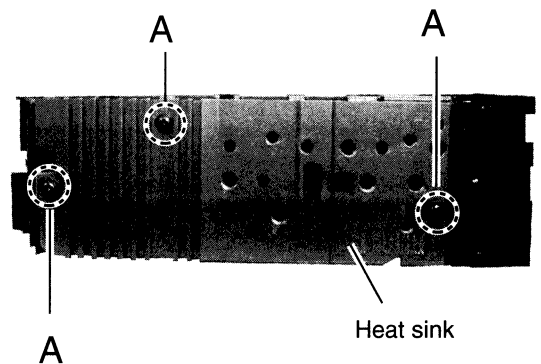

Fig.2
■ Removing the heat sink (See Fig.2)